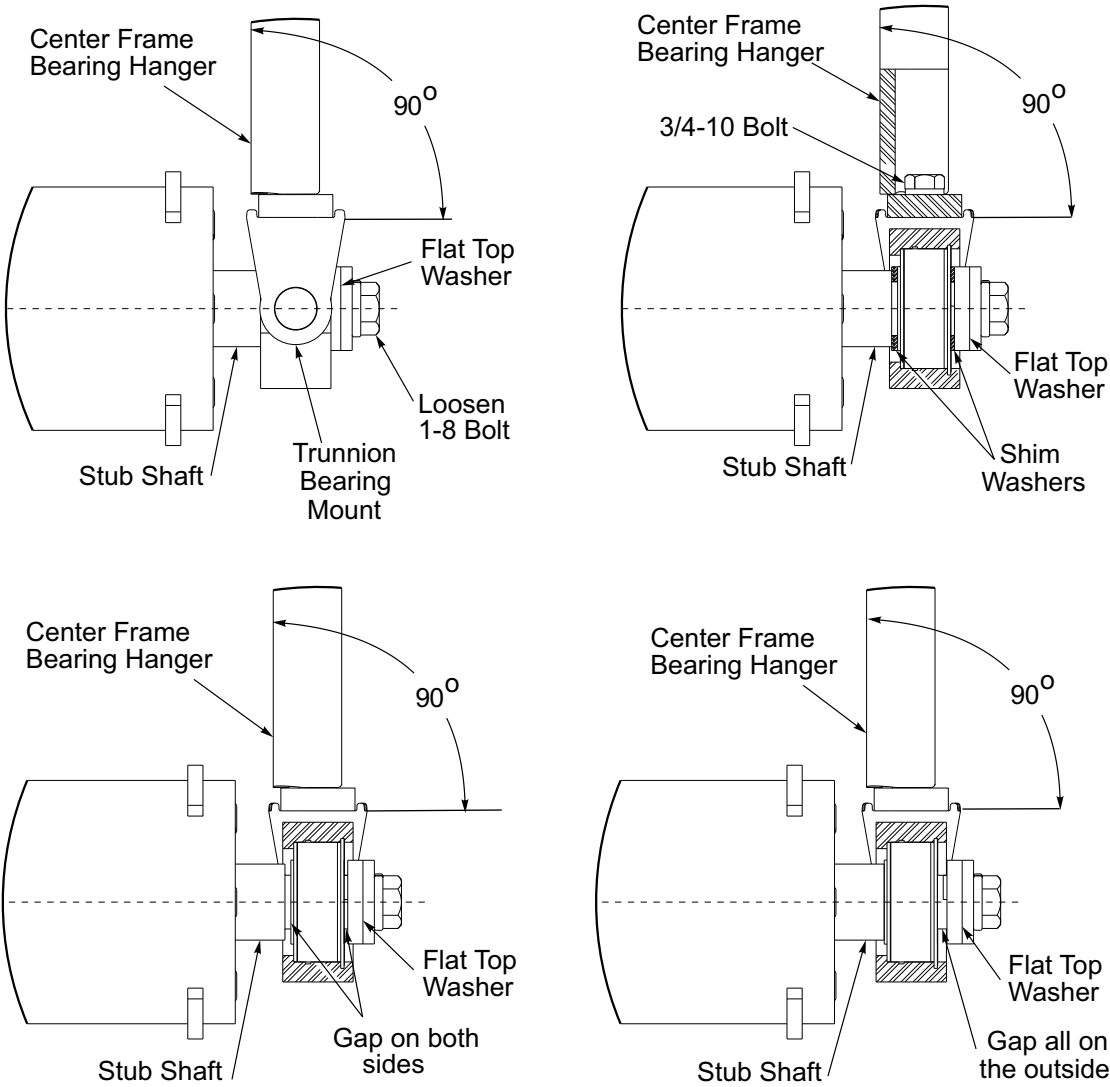

Figure 4-3: Trunnion Spacers
2. Look at each Trunnion Bearing Mount to make sure that it is sitting perpendicular to the Center Frame Bearing Hanger. If not adjust the Shim Washers accordingly, for each side there are two 11ga and one 14ga Shim Washers. Shim Washers can be all three on the inside between the Stub Shaft shoulder and the Trunnion Bearing, all three can be on the outside between the Trunnion Bearing and Flat Top Washer, or a combination on either side, but all three must be used to minimize the gap. If gap cannot be properly minimized with bearing snap rings to outside, turn bearing around to have snap ring to inside. The bearing inner race is offset with respect to the trunnion bosses by 1/32". By installing bearings with snap rings in versus out, 1/16" difference can be made up at assembly if needed. **See Figure 4-3.**